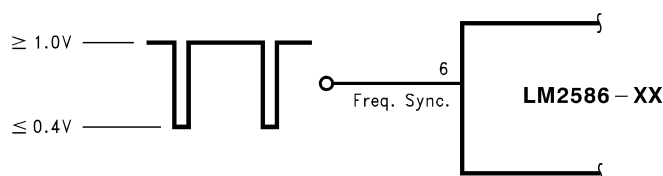
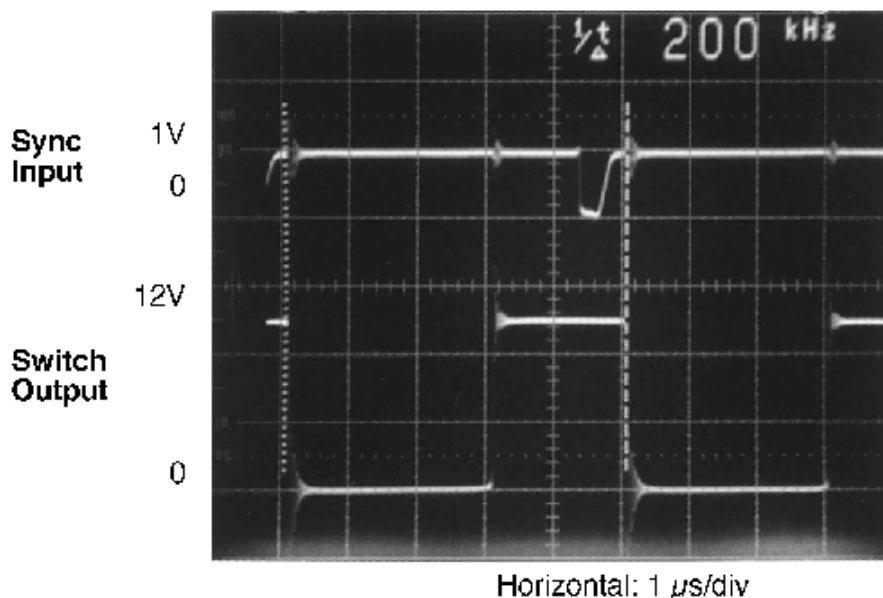

Figure 24. Frequency Synchronization
Figure 25. Waveforms of a Synchronized 12-V Boost Regulator
- (7) When testing the minimum value, do not sink current from this pin—isolate it with a diode. If current is drawn from this pin, the frequency adjust circuit will begin operation (Figure 25).
A negative falling pulse applied to the sync pin will synchronize the LM2586 to an external oscillator (see Figure 24 and Figure 25).
The scope photo in Figure 25 shows a LM2586 12-V boost regulator synchronized to a 200-kHz signal. There is a 700-ns delay between the falling edge of the sync signal and the turning on of the switch.